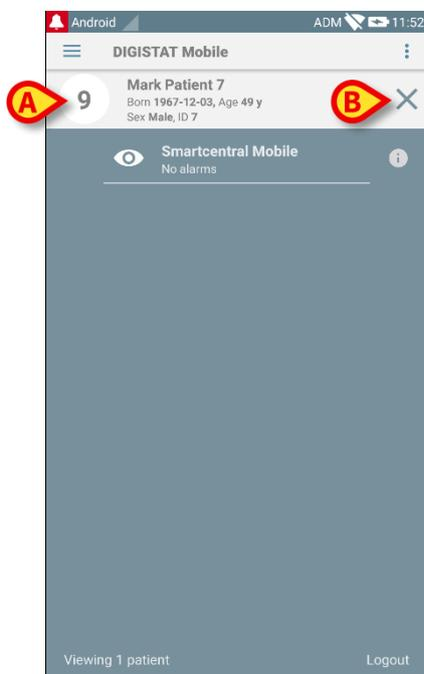

Fig 156
The patient will be this way selected (Fig 156).
Patient data are on top of the page (Fig 156 **A**). All the data in the Digistat Smart Central Mobile are now filtered by patient (i.e. all and only the selected patient alarms/notifications are displayed).
- Touch the cross indicated in Fig 156 **B** to deselect the patient and turn to “All Patients” mode again.
The patient will be this way selected. The screen shown in Fig 156 (example) will be displayed.
The patient will be this way selected. The screen shown in Fig 156 will be displayed.